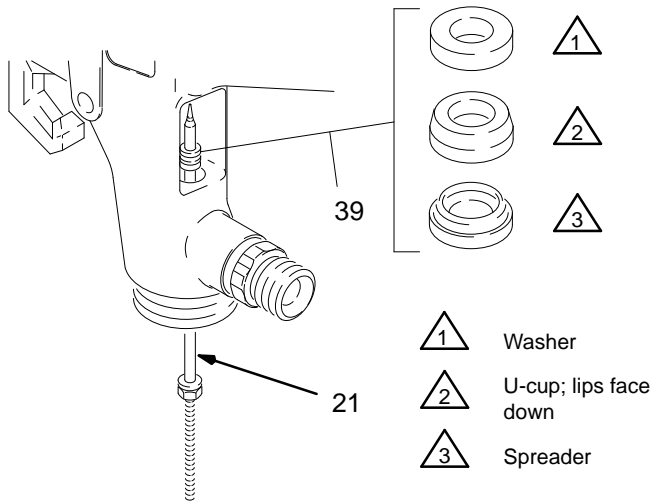

Fig. 6
1. Insert the fluid needle (21) through the front of the gun as shown in Fig. 6. Install the new packing assembly (39) by placing them on the end of the needle tip. Orientate the packings as shown in Fig. 6.